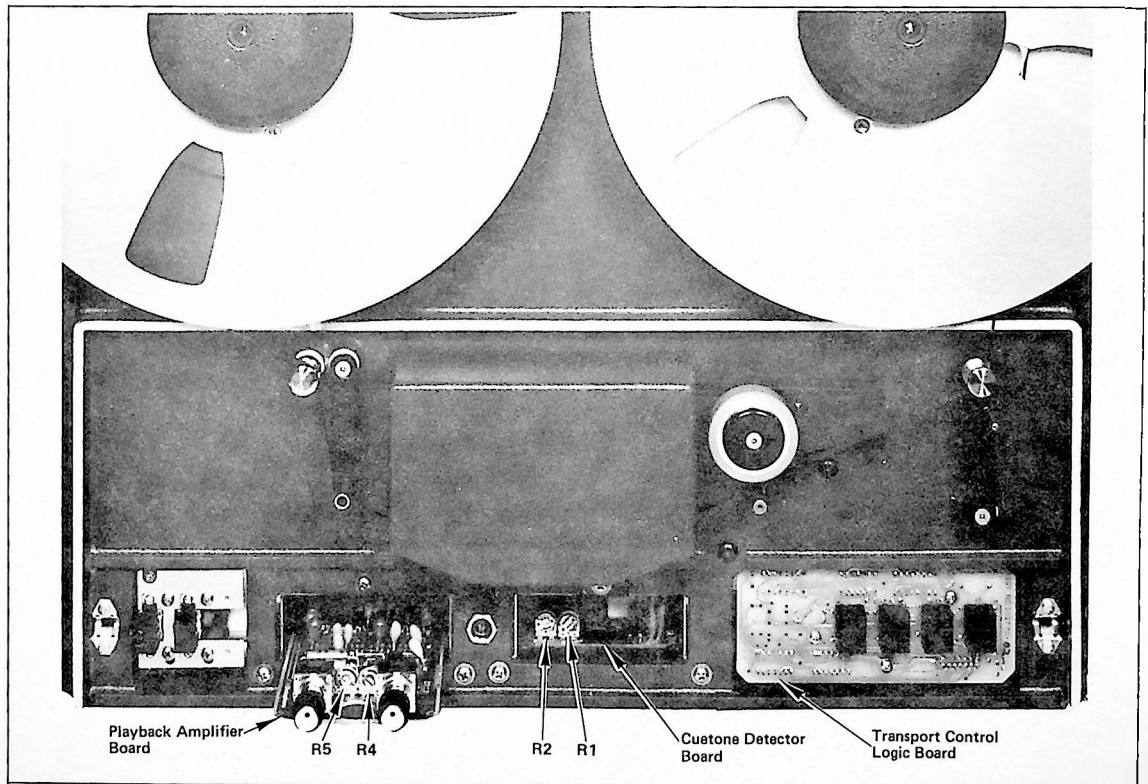

Figure 7-10
ALIGNMENT PROCEDURES FOR THE 255 REPRODUCERS ONLY (Figure 7-10)
- c. Carefully pull off the transport control panel for access to the adjustment controls on the playback card. (See Figure 7-10.)
CUETONE DETECTOR SENSITIVITY ADJUSTMENT (Figure 7-10)
- f. Set sensitivity control (R2) fully CCW position (see Figure 7-10) and slowly increase sensitivity (CW) until relay clicks in. Observe reading on ACVM and increase sensitivity an additional 6 dB. NOTE: The LED mounted on the front end of the board will light when 25 Hz tone is detected, and also when the relay energizes.